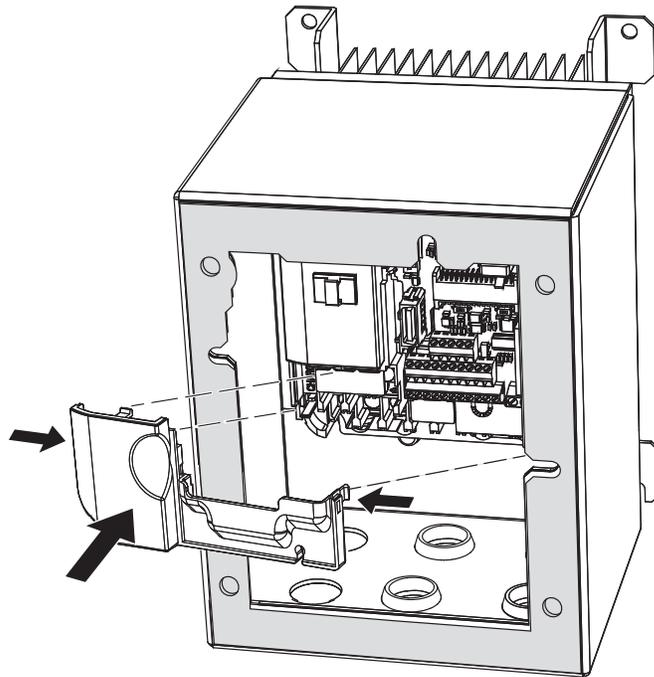

Figure 35 Reattach the Lower Terminal Cover
11. Reattach the lower terminal cover, (on certain models), to the drive by aligning the left and right tabs and snap into place. Figure 35.